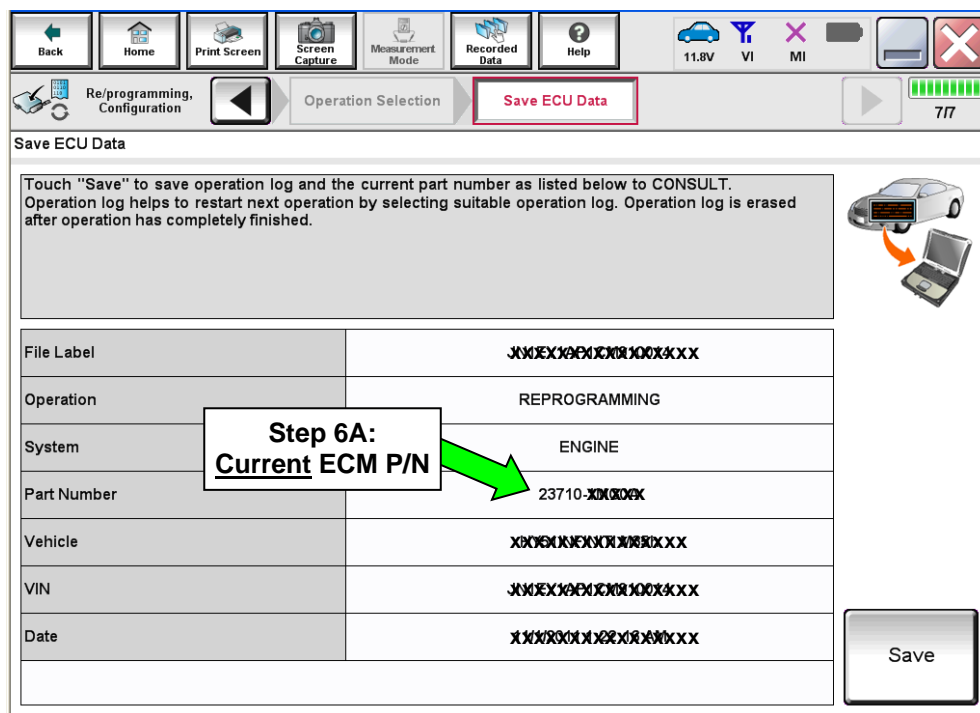

Figure 2
5. Follow the on-screen instructions and navigate C-III plus to the screen shown in Figure 2 on the next page.
6. When you get to the screen shown in Figure 2, confirm this bulletin applies as follows.